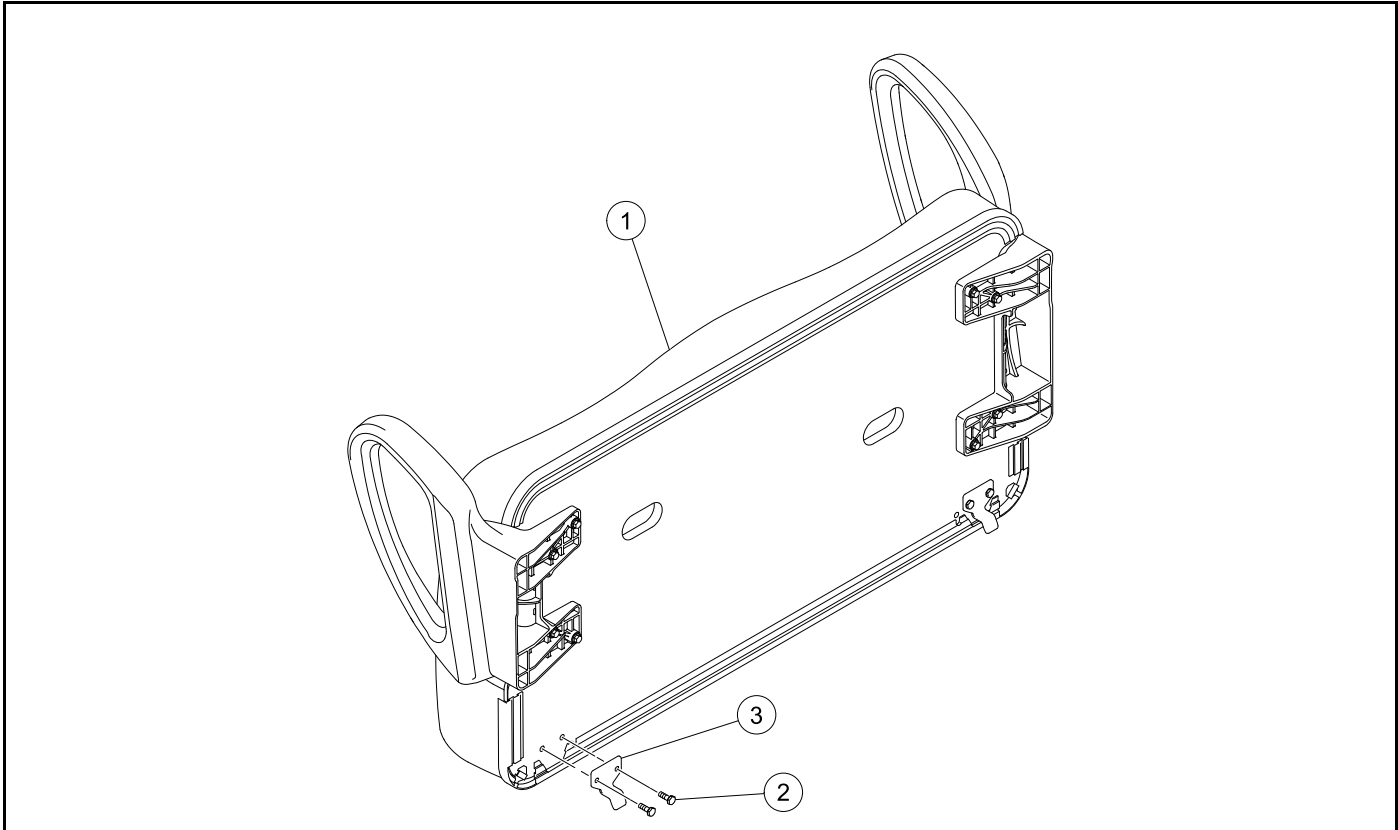

Figure 4-1 Seat Bottom Hinge
1. Remove the seat bottom (1) from the vehicle (**Figure 4-1**).
2. Remove the screws (2).
3. Remove the hinge (3).
1. Align the hinge (3) onto the seat bottom (1) (**Figure 4-1**).
2. Install the screws (2). Tighten the screws to 75 lb·in (8.5 N·m).